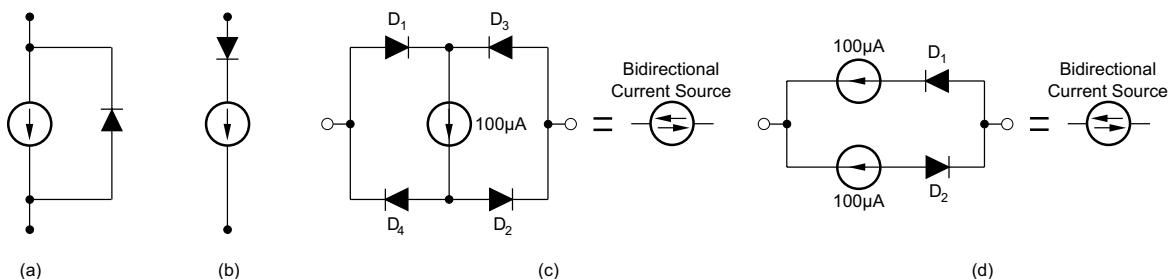

Figure 17. Reverse Voltage Protection
If the current sources are subjected to reverse voltage, a protection diode may be required. A reverse voltage circuit model of the REF200 is shown in Figure 6. If reverse voltage is limited to less than 6 V or reverse current is limited to less than 350 μ A, then no protection circuitry is required. A parallel diode (see (a) in Figure 17) protects the device by limiting the reverse voltage across the current source to approximately 0.7 V. In some applications, a series diode may be preferable (see (b) in Figure 17), because it allows no reverse current. This configuration, however, reduces the compliance voltage range by one diode drop.
(1) See Figure 17.